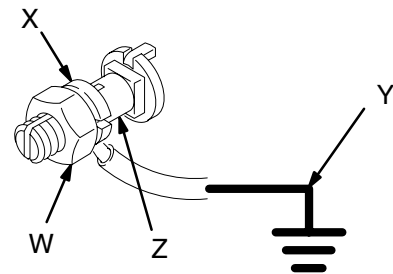

Fig. 2
- *Air motor:* Use a ground wire and clamp as shown in Fig. 2. Loosen the grounding lug locknut (W) and washer (X). Insert one end of a 12 ga (1.5 mm²) minimum ground wire (Y) into the slot in lug (Z) and tighten the locknut securely. Connect the other end of the wire to a true earth ground. Order part number 238909 Grounding Clamp and Wire.